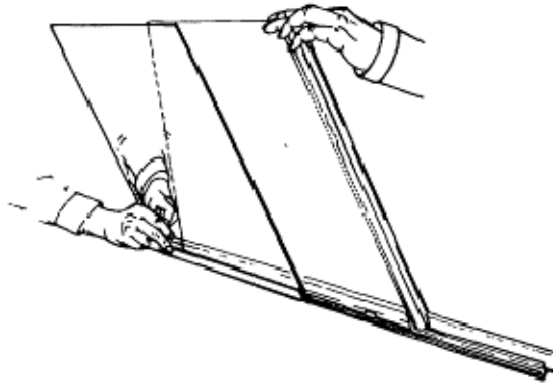

Figure 191 Inner and Outer Glass Installation
- u. Install the inner and outer glasses (Figure 191).